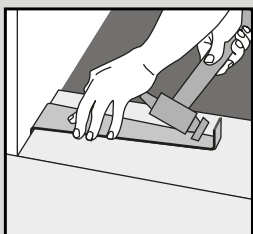

Fig. 6
- Continue to install planks across the room until the row is complete using a hand roller to assist. Only if necessary, use a rubber mallet and an offcut of the product to gently tap the product. A pull bar can be used to pull the product together around the edges of the room (Fig. 6).